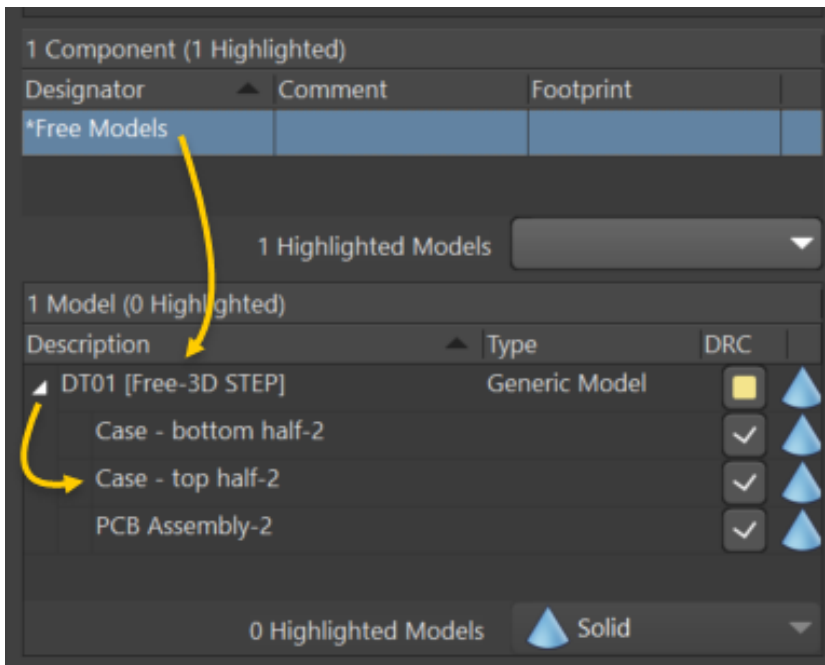

Figure 4. DT01 models from the PCB panel
16. In the *PCB* panel, you'll see the *Free Models* section. Click on *Free Models*. You'll then see the DT01 assembly in the *Model* section as shown in Figure 4.